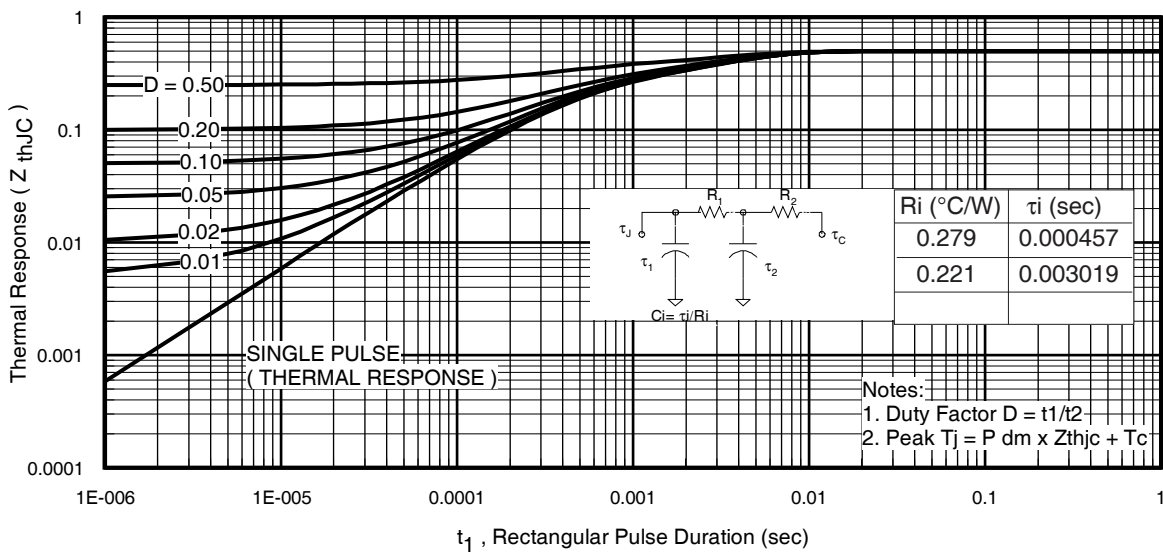
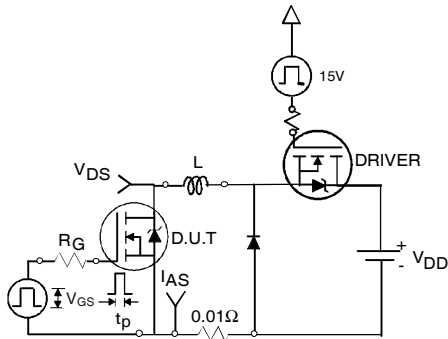

Fig 11. Maximum Effective Transient Thermal Impedance, Junction-to-Case
Fig 12a. Unclamped Inductive Test Circuit
- ① Repetitive rating; pulse width limited by max. junction temperature. (See fig. 11).
- ② Limited by T_{Jmax} , starting $T_J = 25^\circ\text{C}, L = 0.095mH, R_G = 25\Omega, I_{AS} = 75A, V_{GS} = 10V$. Part not recommended for use above this value.
- ③ $I_{SD} \leq 75A, di/dt \leq 340A/\mu s, V_{DD} \leq V_{(BR)DSS}, T_J \leq 175^\circ\text{C}$.
- ④ Pulse width $\leq 1.0ms$; duty cycle $\leq 2\%$.
- ⑤ $C_{oss\ eff.}$ is a fixed capacitance that gives the same charging time as C_{oss} while V_{DS} is rising from 0 to $80\% V_{DSS}$.
- ⑥ Limited by T_{Jmax} , see Fig.12a, 12b, 15, 16 for typical repetitive avalanche performance.
- ⑦ This value determined from sample failure population. 100% tested to this value in production.
- ⑧ This is applied to D²Pak, when mounted on 1" square PCB (FR-4 or G-10 Material). For recommended footprint and soldering techniques refer to application note #AN-994.
- ⑨ R_{θ} is measured at T_J of approximately 90°C .
- ⑩ TO-220 device will have an R_{th} of 0.45°C/W .
3. Equation below based on circuit and waveforms shown in Figures 12a, 12b.
$Z_{thJC}(D, t_{av})$ = Transient thermal resistance, see figure 11)